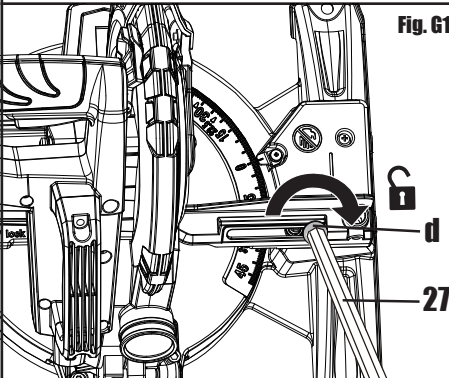

Fig. G1
## 3. BEVEL LOCK (SEE FIG. G1-G4)
- 1) Loosen the locking bolt (d) using the M5 hex key provided located on the extended fence for bevel cutting. Pull the extended fence outwards to its farthest position. (See Fig. G1, G2) Tighten the locking bolt again to lock the fence.